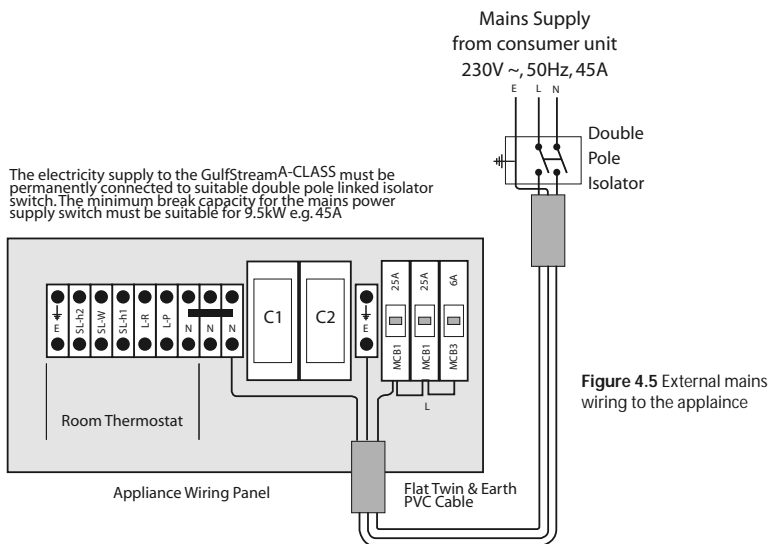

Figure 4.5 External mains wiring to the appliance
- The appliance is supplied with 2m long, 10mm2 (twin + E) flexible cable and it must be connected to a local (not more than 2m away from the appliance) 45A double pole isolator having a contact separation of at least 3mm in both poles as shown in figure 4.5.